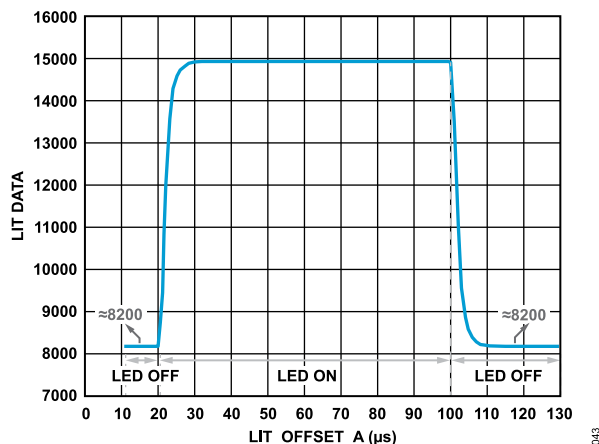

Figure 47. Timing of OSRAM FIREFLY CT DBLP31.12 (Green LED)
5. Plot the mean value of the lit data and LIT_OFFSET_A. The response time of the optical device (for example, OSRAM FIREFLY® CT DBLP31.12) is shown in Figure 47.